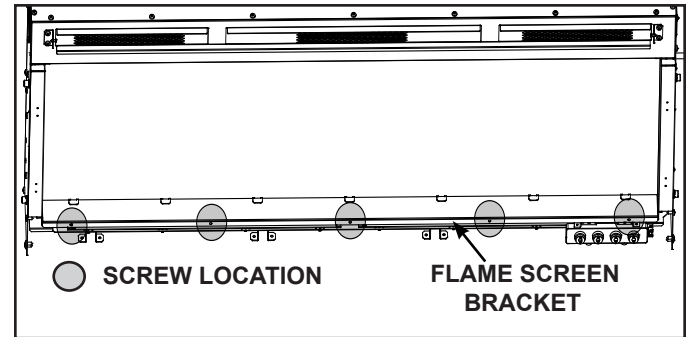

Figure 21. Remove Flame Screen Bracket Screws.
19. Remove screws used to attach the flame screen bracket. See Figure 21.